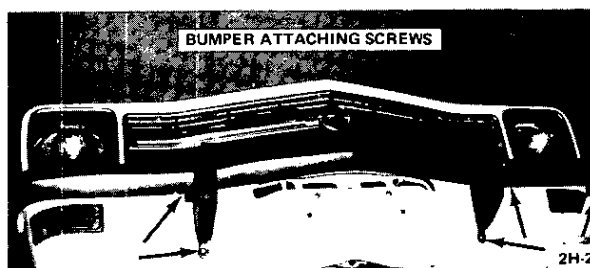

Figure 2H-2 Bumper Attaching Screws
1. Remove bumper attaching screws on inside • left and right • and from left and right brackets. See Figure 2H-2.